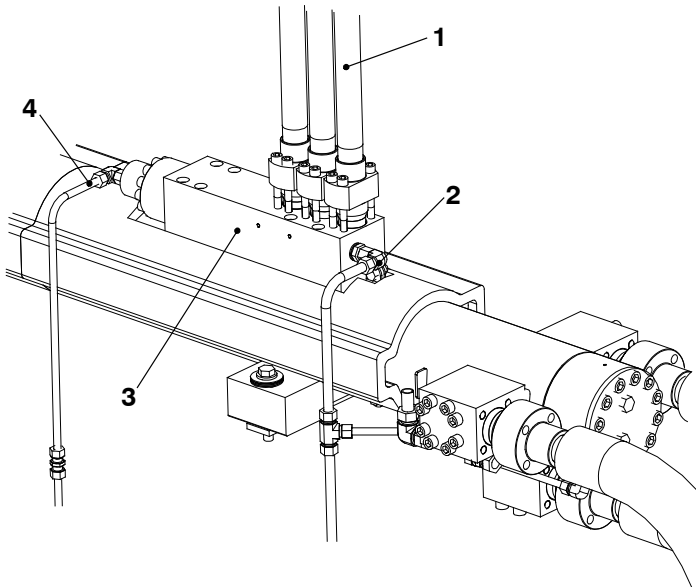

Fig. 5
- 13) Install the leakage pipes (2 and 4, Fig. 5) to the flow limiting valve (3).